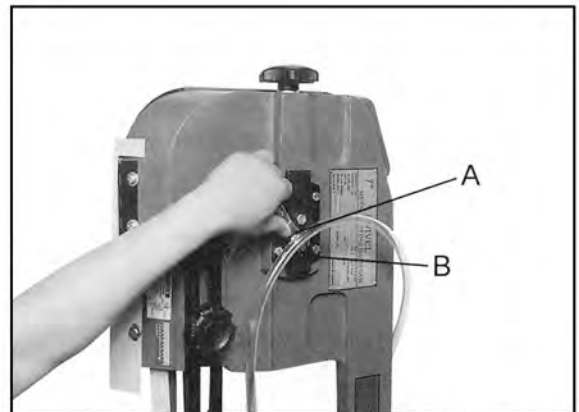

Fig. 8
5. Loosen bolts (A, Fig.8)
6. Turn set screw (B) while observing blade tracking on wheel. Turn set screw clockwise to track blade closer to the wheel flange. Turn set screw counter-clockwise to track blade away from the wheel flange.
7. Once tracking is set, tighten bolts (A).
4. Turn nut (B) to adjust eccentric bearing snug to the blade. Blade should still move up and down freely when grasped as in Fig.8.